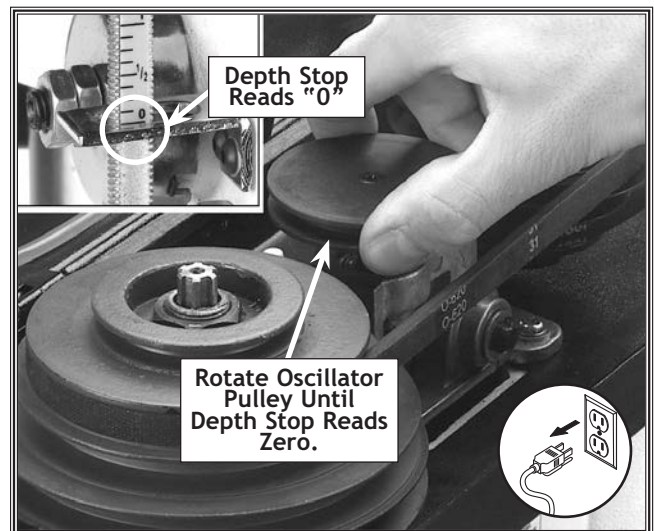

Figure 41. Retracting the oscillator for drilling.
2. Rotate the oscillator pulley until the depth stop reads "0" (see **Figure 41**).